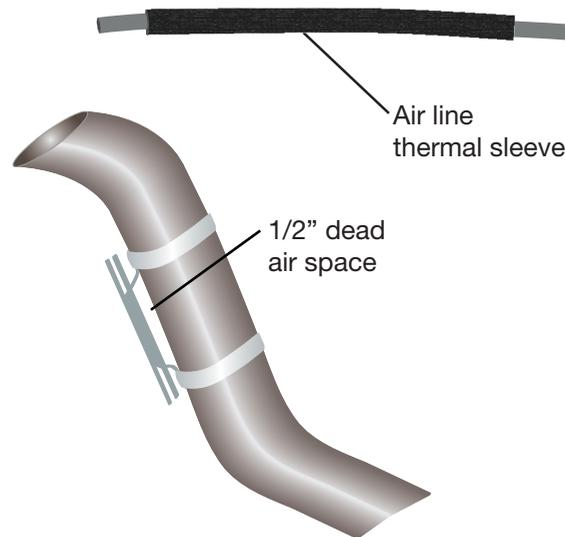

fig. 18
1. Attach the metal heat shield to the exhaust where it is closest to the air spring. (Fig. 18).